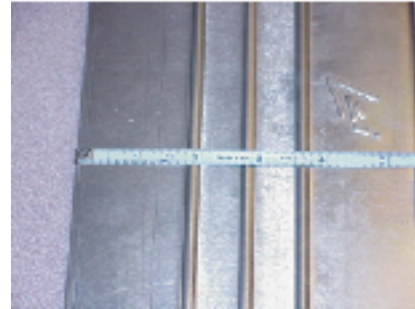

FIG. 1
1. Measure from edge of door 3-3/4" and strike a line. Edge of glare shield will stop at this line. See Fig. 1.